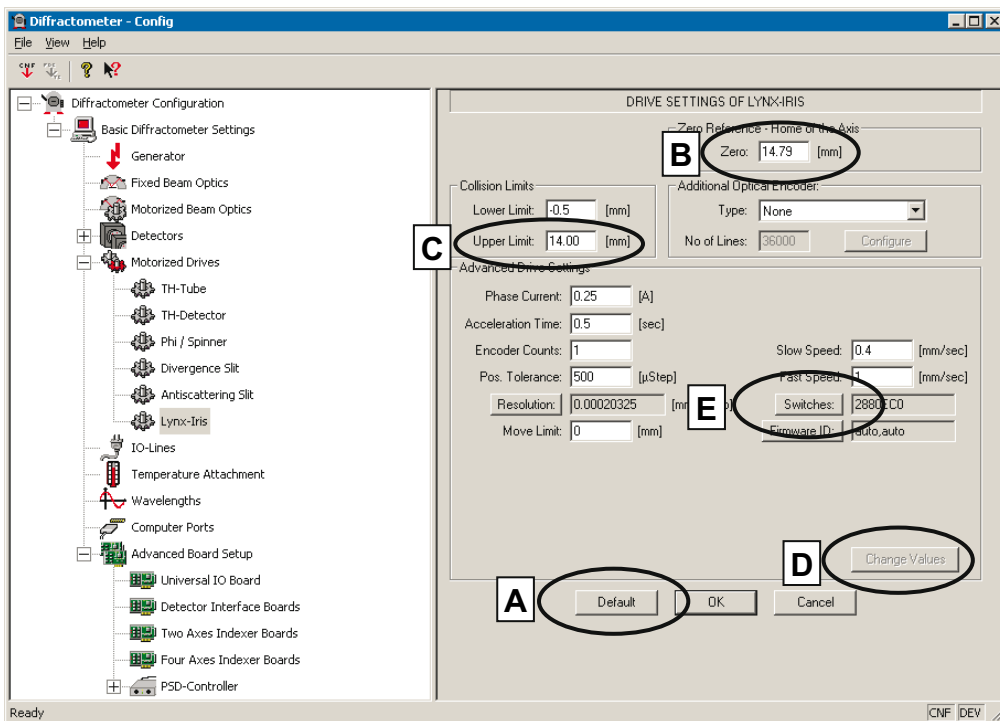

Figure 7.8 Lynx Iris Parameters
- Activate the new defined Lynx Iris and press **Default** to preset all motor parameters (**A**) (see Figure 7.8).